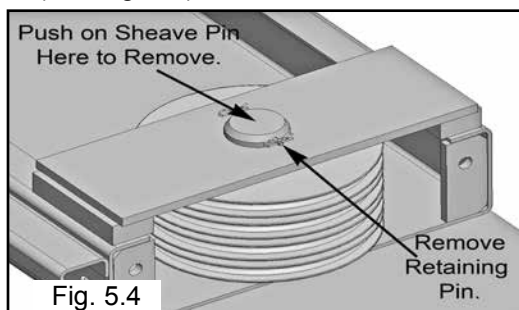

Fig. 5.4
3. Remove any pre-installed CABLE SHEAVES and SPACERS from the POWERSIDE RUNWAY making sure to and pay attention to the order in which they are removed. (This will help at the time of re-installation.) First remove the Retaining Pin then press the Sheave Axle through the Runway completely until the Sheaves and Spacers are removed. (See Fig. 5.4)